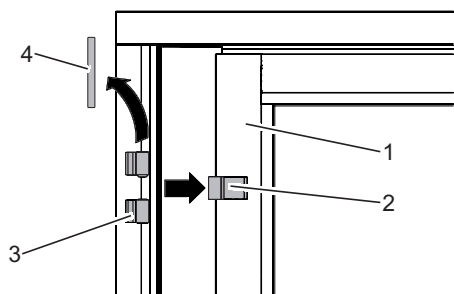

Fig. 43: Removing the single action door
1. Loosen the threaded pins and hinge pins (Fig. 43/4).
2. Lift the hinges (Fig. 43/2) of the single action door (Fig. 43/1) from the door hinges (Fig. 43/3) of the wall mounting profile.